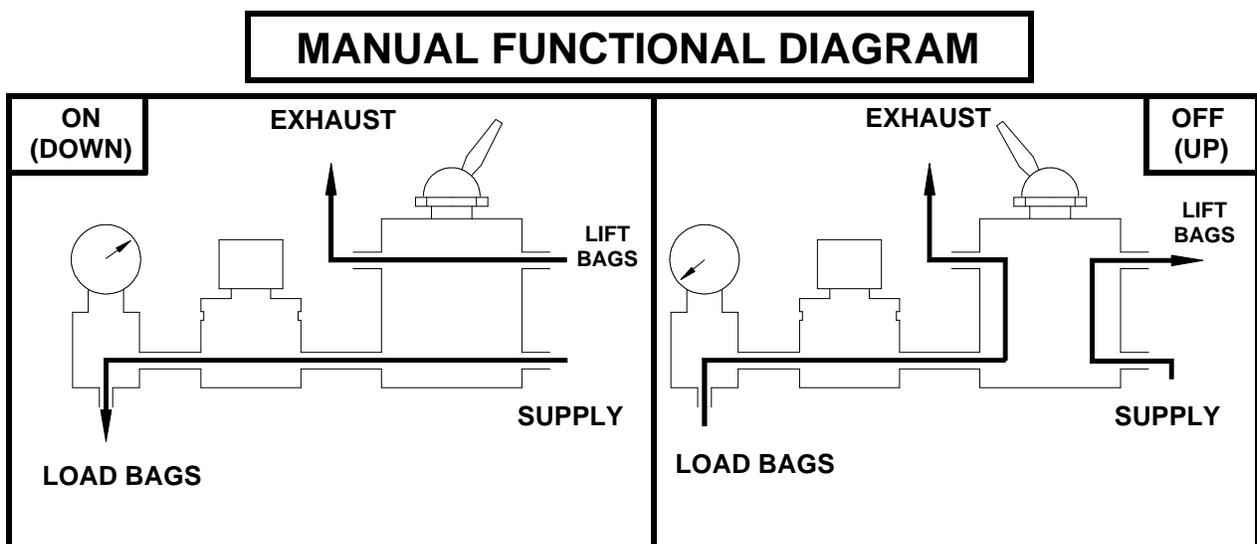

Figure 8-1
The operator controls the outlet pressure by using the regulator and the toggle valve. Outlet pressure, which is indicated on the gauge, is set by the pressure regulator. Pressure is increased by turning the knob in a clockwise direction, and it is reduced by turning the knob the opposite direction. When the toggle is moved to the ON (DOWN) position, pressurized air is supplied to the regulator and to the load air springs. Moving the toggle to the OFF (UP) position causes the load air springs to be exhausted and the lift air springs to be inflated with system pressure. (See Figure 8-1)